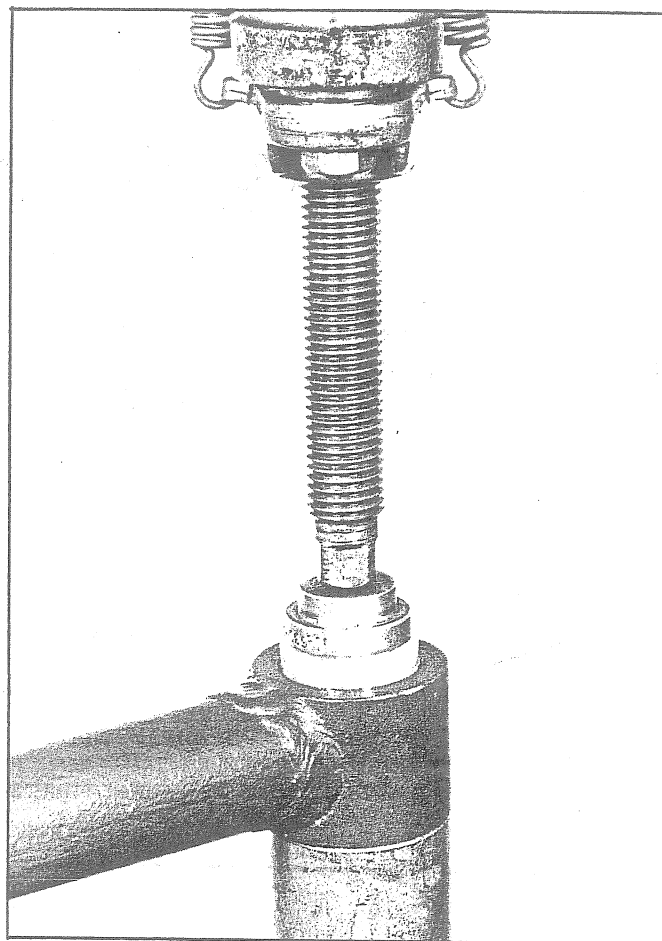

Fig. 75 - Installing New Ball Stud and Bushing into Housing
3. Press new ball stud and bushing into tie rod housing as shown in Fig. 75.